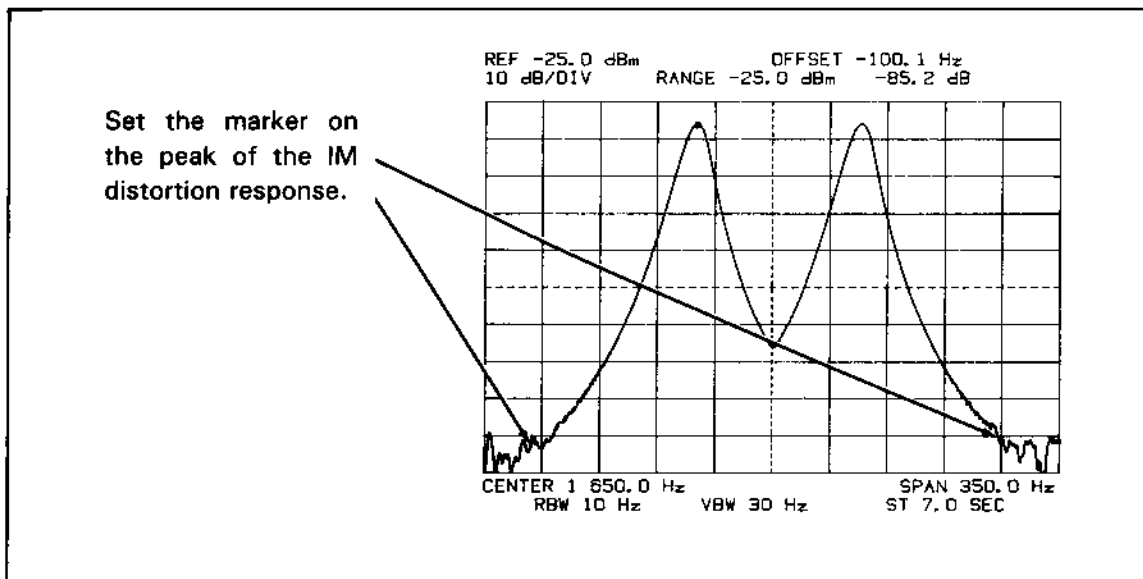

Figure 4-6. IM Distortion Response
- h. Watching the offset frequency in the upper right-hand corner of the 3585A display, move the marker until the frequency reads -100 Hz \pm 1 Hz (see Figure 4-6).